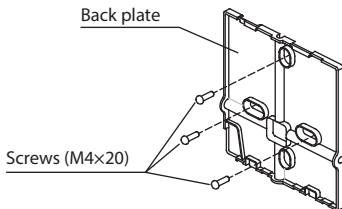

Fig 3-5
- For exposed mounting, fasten the back plate on the wall with the 3 screws (M4×20) and plugs. (Fig.3-5)